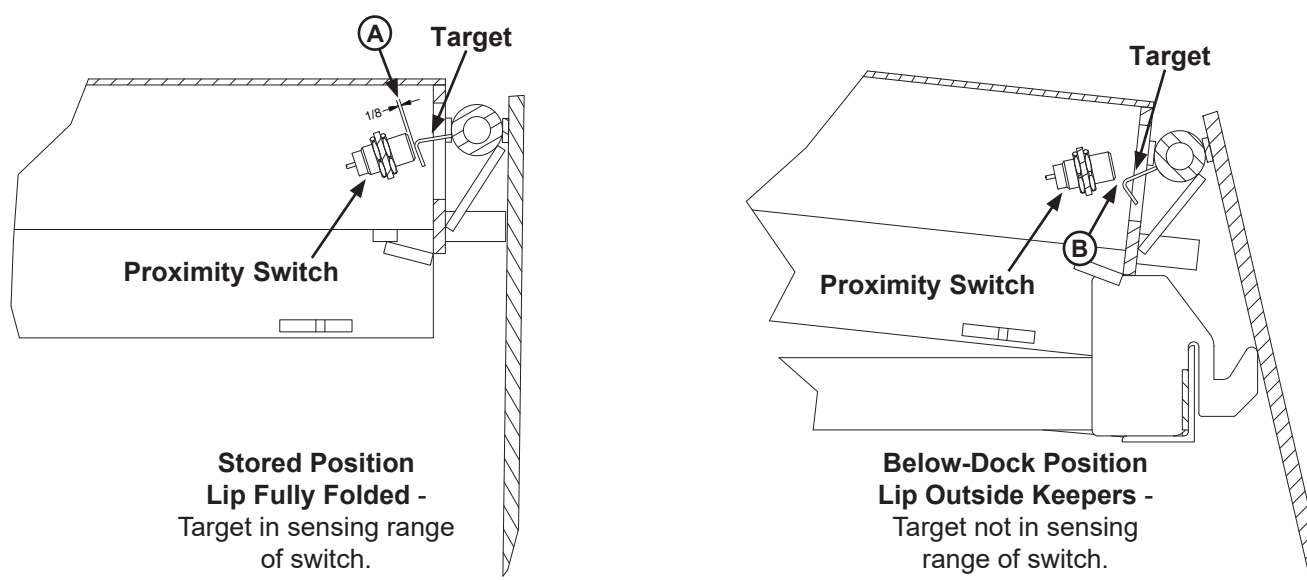

Figure 21
6. Press the RELEASE button. The vehicle restraint should NOT disengage from the transport vehicle RIG bar or test fixture. If the vehicle restraint did NOT disengage, proceed with Step 7. If the vehicle restraint DID disengage, move the switch farther from the target or bend the target to increase dimension (B) so that the target is not in the sensing range of the switch. Make adjustments at switch and/or target until vehicle restraint does not disengage transport vehicle. See Figure 21.